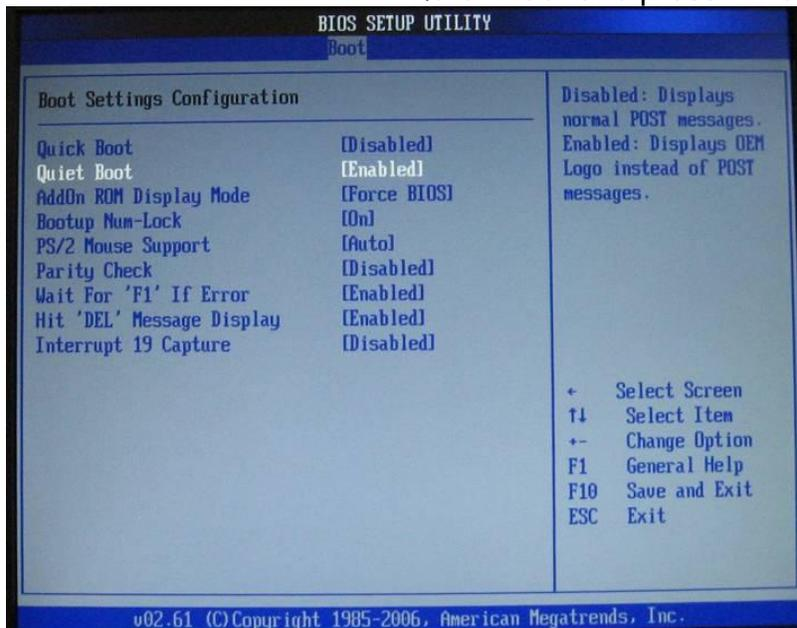

Figure 8-44 Boot Setting Configuration Screen
34. On the **PCI/PnP** screen, scroll across to the **BOOT** tag and press **Enter**. Then select **Quiet Boot** and press **Enter**. (Figure 8-44).